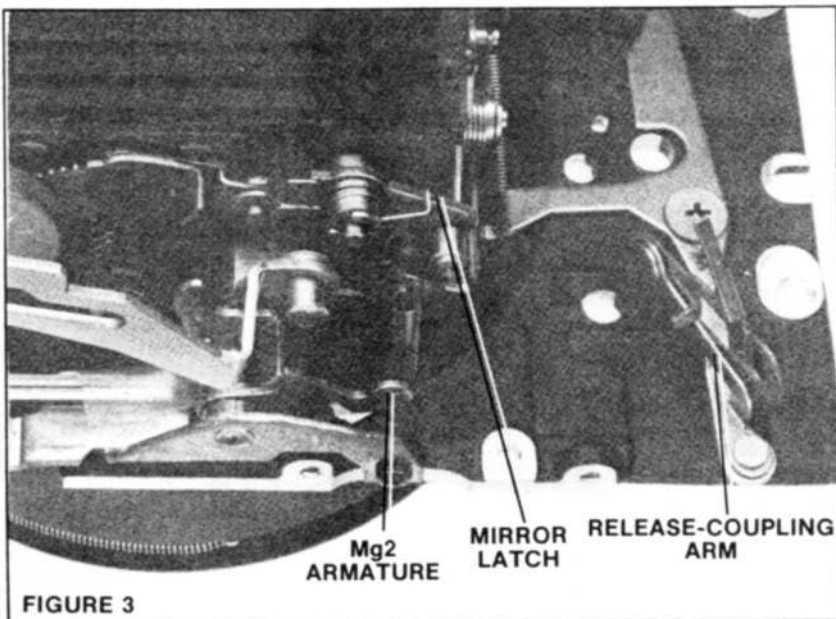
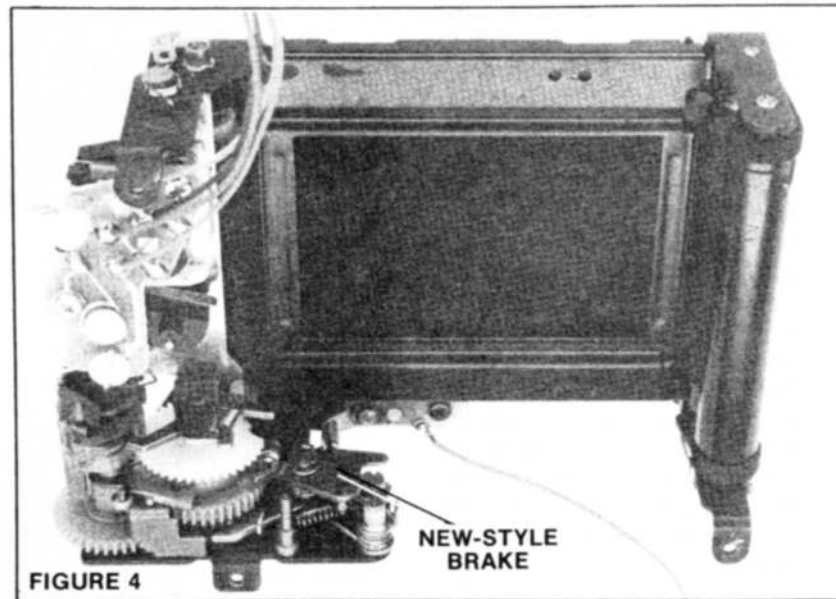

FIGURE 3
FIGURE 4
3. The release magnet Mg2 has been revised. The new style doesn't have the post on the armature, Fig. 3. If you replace an old-style magnet with a new-style magnet, also replace the release-coupling arm (the arm that the release magnet engages to release the mirror); the new style has an upraised tab that connects to the new-style magnet, Fig. 3. New-style magnet — 2019-0850-11. New-style release-coupling arm — 2006-0527-02.
4. The mirror latch, Fig. 3, has a third revision. The old style (2006-0522-01) has a small post (2mm). The revised type has a larger post (2.5mm) because of the new-style brake system at the bottom of the shutter, Fig. 4. The latest revision (2006-0522-03) has a 3mm roller. You can use the latch with the roller in cameras that have the new-style brake system, Fig. 4. The revision corrects for mirror sticking